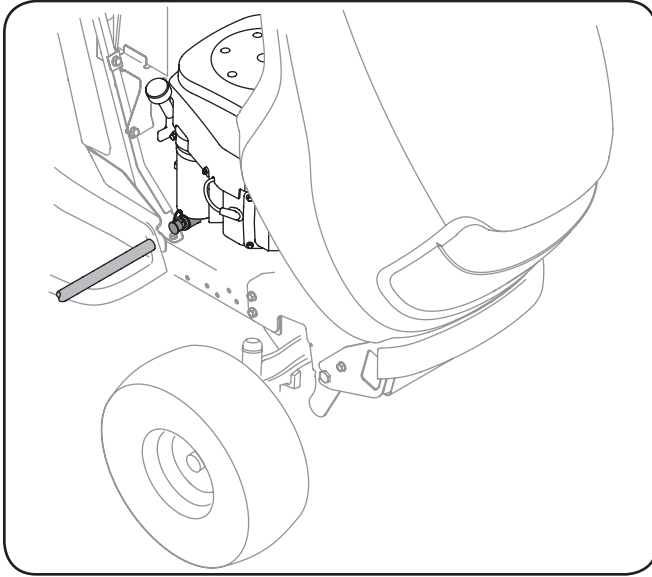

Figure 6-1
3. Pop open the protective cap on the end of the oil drain valve to expose the drain port. See Fig. 6-1.